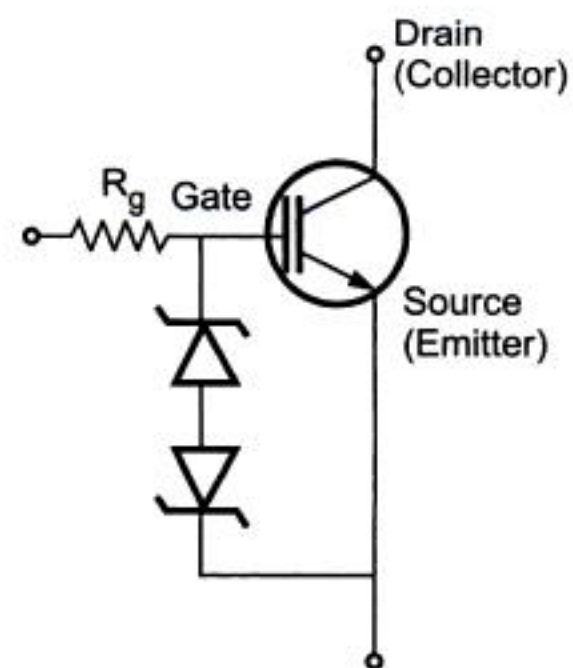

Fig. 1.4.11 Gate overvoltage protection
- Fig. 1.4.11 shows the circuit diagram of gate overvoltage protection. This circuit consists of two zener diode connected in series back to back.